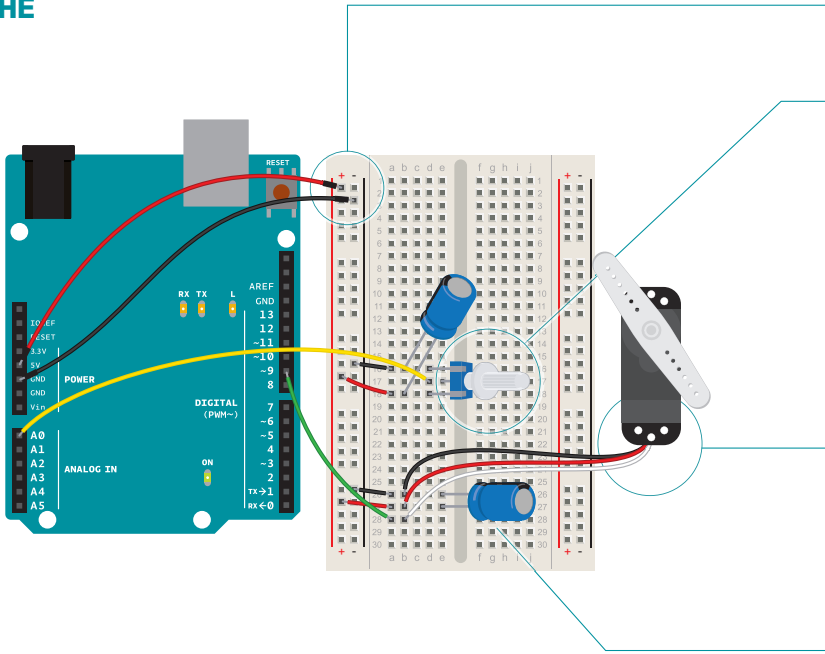

Fig. 1
- 4 When a servo motor starts to move, it draws more current than if it were already in motion. This will cause a dip in the voltage on your board. By placing a 100uF capacitor across power and ground right next to the male headers as shown in Fig. 1, you can smooth out any voltage changes that may occur. You can also place a capacitor across the power and ground going into your potentiometer. These are called *decoupling capacitors* because they reduce, or decouple, changes caused by the components from the rest of the circuit. Be very careful to make sure you are connecting the cathode to ground (that's the side with a black stripe down the side) and the anode to power. If you put the capacitors in backwards, they can explode.